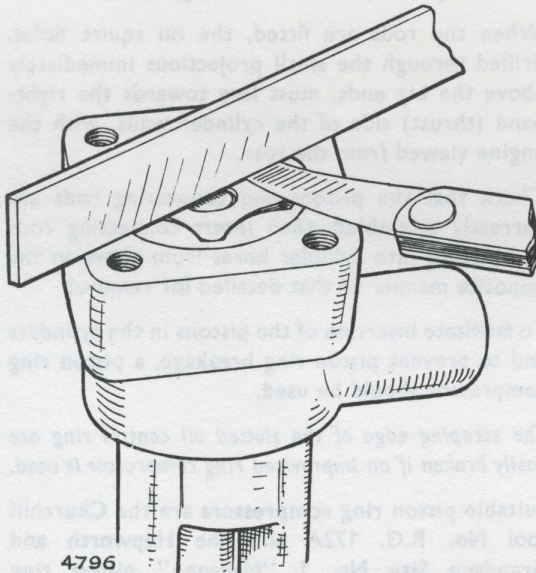

Fig. 37. Checking pump rotor end clearance
1. End clearance between the inner and outer rotor ring and pump body. The maximum and minimum clearances are .003" (.076 mm.) and .001" (.025 mm.) when measured with a feeler and straight edge as illustrated in Fig. 37.